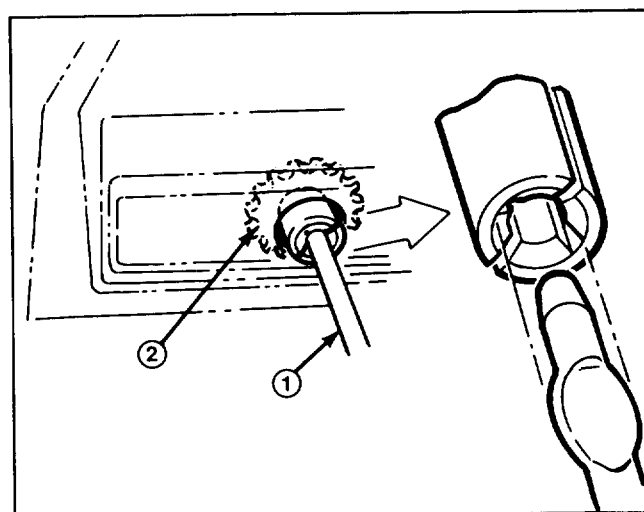

Figure 3
2. Secure deflector to discharge chute with (2) 5/16-18 UNC carriage bolts, metal washers, and locknuts. Make sure the square shoulders on the carriage bolts align with inside square on discharge chute. Position metal washers to the outside of deflector as shown in Figure 3. DO NOT OVERTIGHTEN BOLTS.